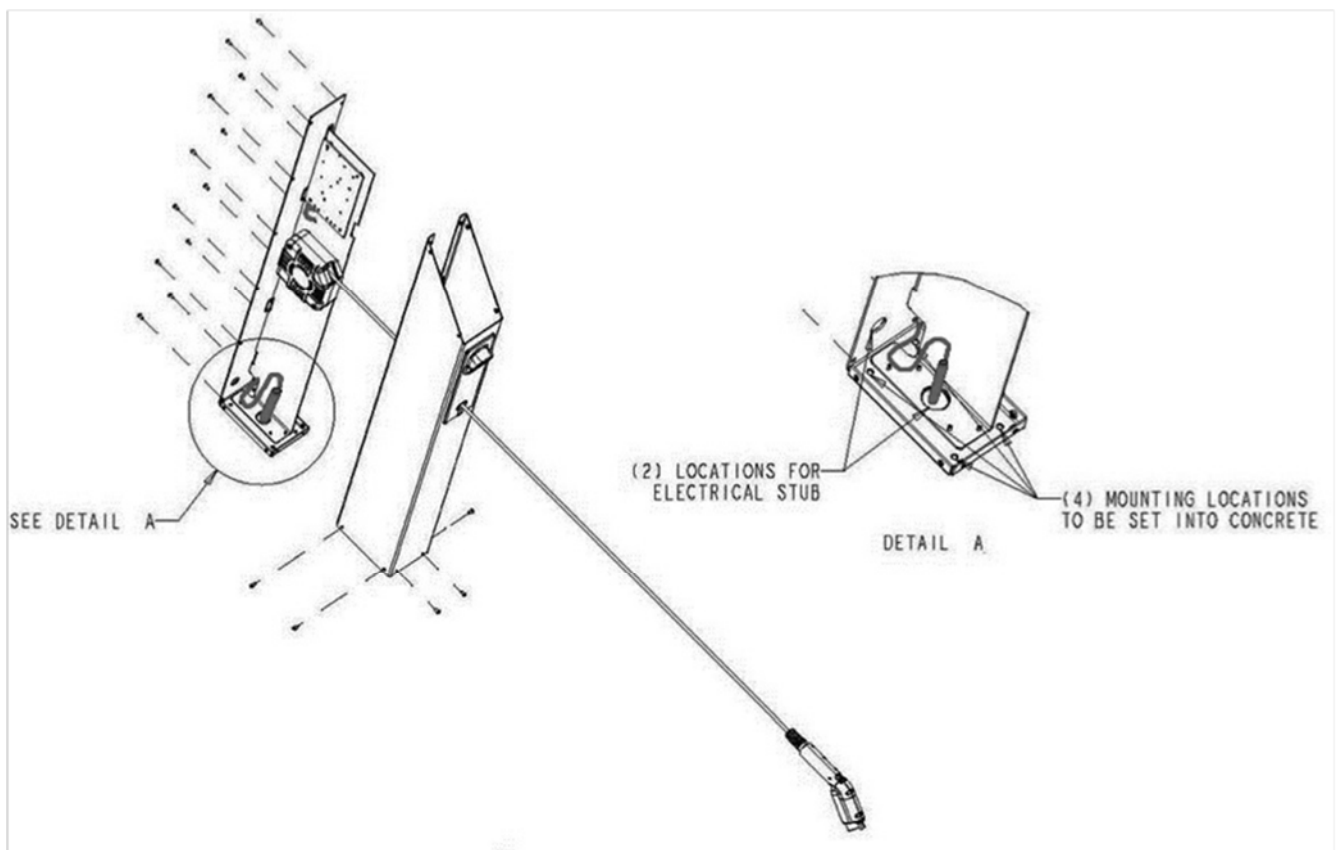
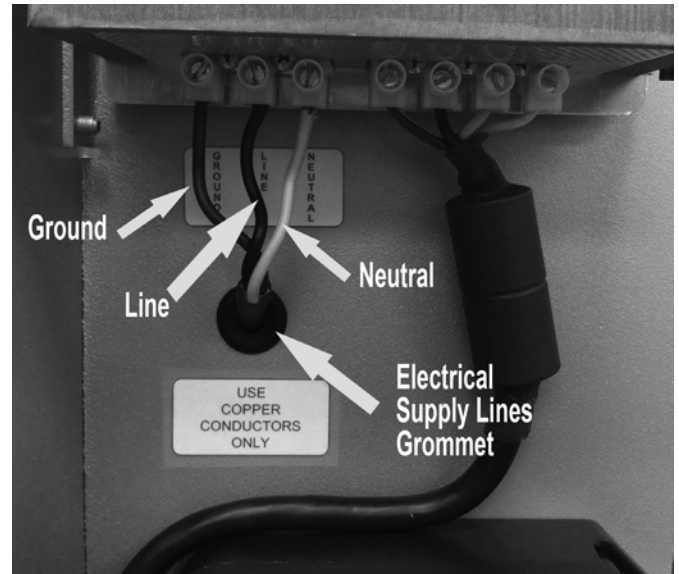

Figure 6 - LED cable harness connector
Figure 7 – Input Wiring Termination
**IMPORTANT:** Torque fasteners to concrete anchor manufacturer's recommended torque value. (See Figure 6, Detail A)
8. Feed electrical supply through either rear or bottom entry location on left of unit. If rear entry is used, secure conduit to rear housing with appropriate hardware. Feed wires from left to right of unit through bottom rear wire access hole. Route cable upwards and feed from right to left of unit through cable pass-through grommet between cord reel and circuit board. (See Figure 6 on previous page and Figure 7 below)
9. Terminate Line, Neutral, and Ground wires per Figure 7.
10. Install the 6 screws in the lower front and sides of the unit that attach the front housing to the charging base. (See Figure 6 on previous page)
<p>None of the status lights are illuminated. L1 PowerPost® EVSE does NOT charge vehicle when charge coupler is plugged in.</p>	<ul style="list-style-type: none"> <li>• Interrupt power to the L1 PowerPost® EVSE and lock out as appropriate. Disassemble unit per steps 3-5 above. Restore supply power to L1 PowerPost® EVSE. Verify that proper supply voltage is present at the L1 PowerPost® EVSE terminal block. (See Figure 7)</li> <li>• Interrupt power to the L1 PowerPost® EVSE and lock out as appropriate. Verify that supply power wiring is securely terminated to incoming power terminal block.</li> <li>• Interrupt power to the L1 PowerPost® EVSE and lock out as appropriate. Remove incoming power fuse and verify continuity. Replace fuse if blown.</li> <li>• If these steps do not resolve the problem, contact Konnectronix technical support.</li> </ul>
4. Disconnect the supply wiring and cord reel wiring from their respective terminal blocks. (See Figure 7 in the Installation section)
8. Reconnect the supply wiring to the terminal block per Figure 7 in the Installation section.